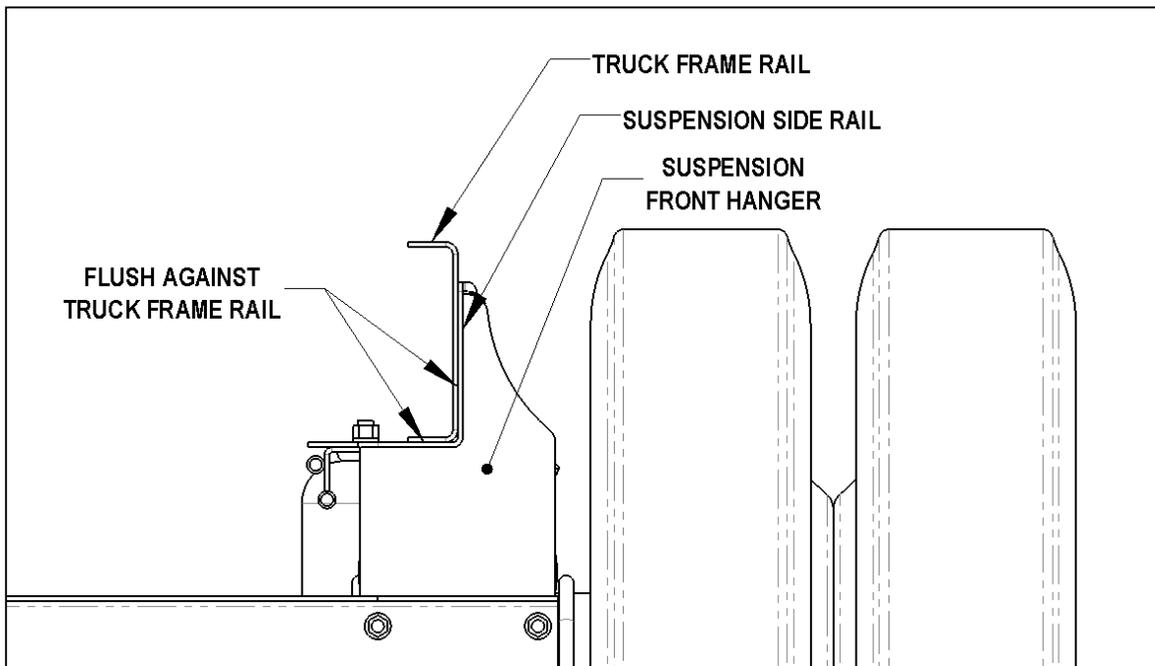

Figure 7
- 8.2. The suspension system's frame brackets and upper bag plates must sit flush to the side and bottom surfaces of the vehicle's frame rails (See 8.3. **Figure 7**).